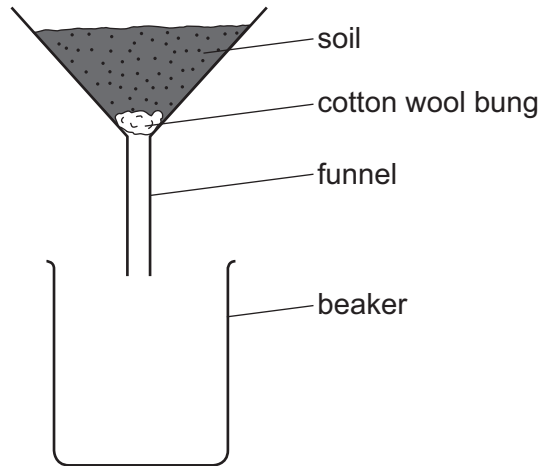

Fig. 3.1
- Fill the rest of the funnel with **AS3** as shown in Fig.3.1. up to around 5 mm from the rim of the funnel.